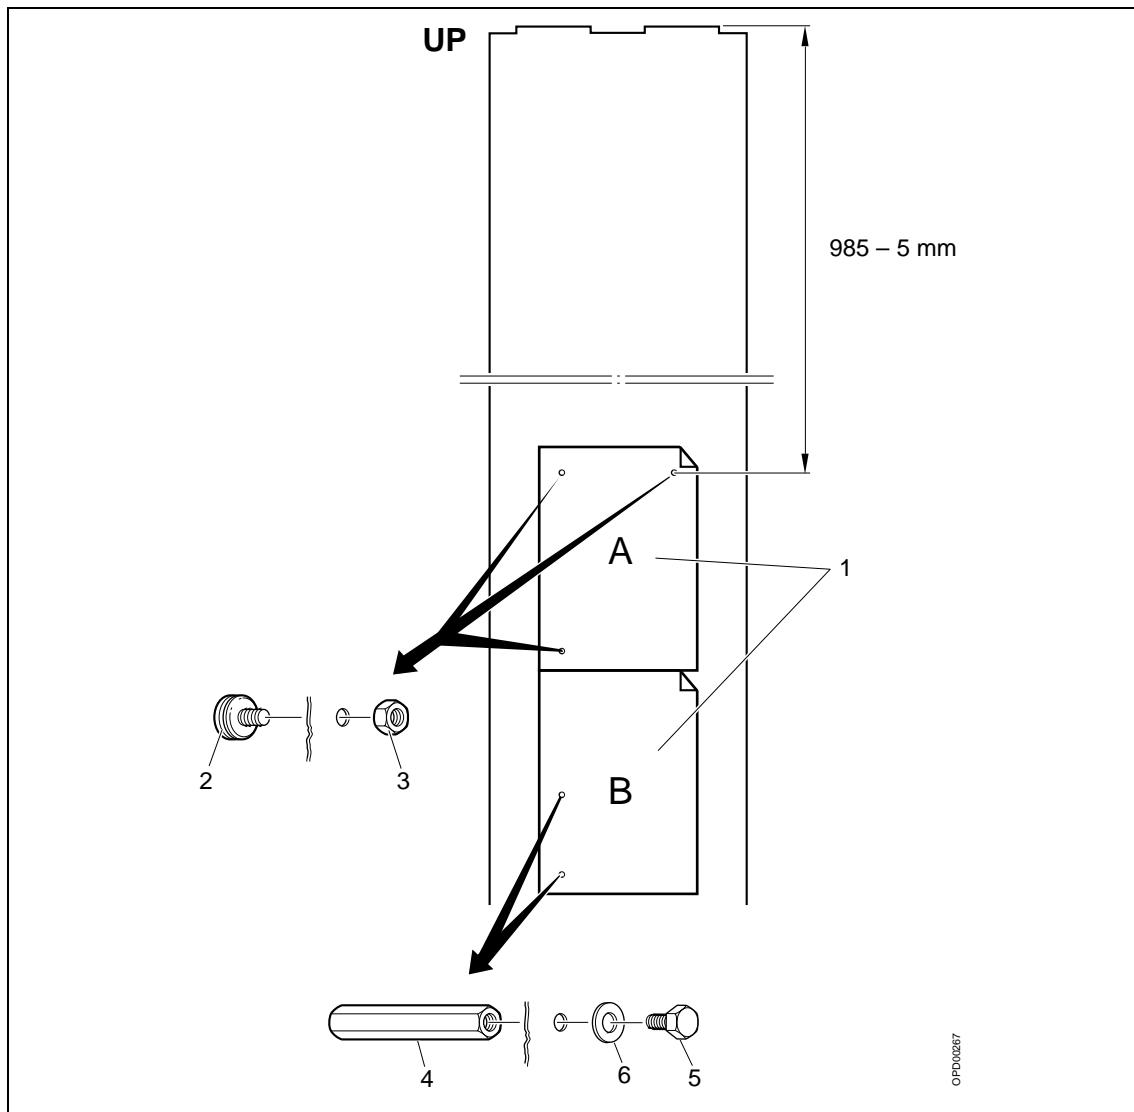

Fig. 2 Rear cover, from the back side
1. Install the three holders (2/Fig. 2) by using the nuts (3/Fig. 2).
2. Install the two standoffs (4/Fig. 2) by using the screws (5/Fig. 2) and the washers (6/Fig. 2).